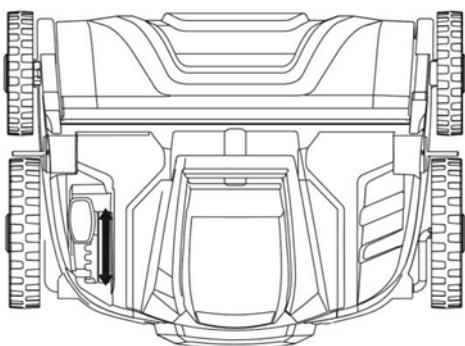

Fig.6.1
Replacement of the roller (Fig. 6.1 - 6.5)
- Place the device on the motor side in a dry area and loosen the wing nut by turning it counterclockwise to open the latch (Fig. 6.1 - 6.2).